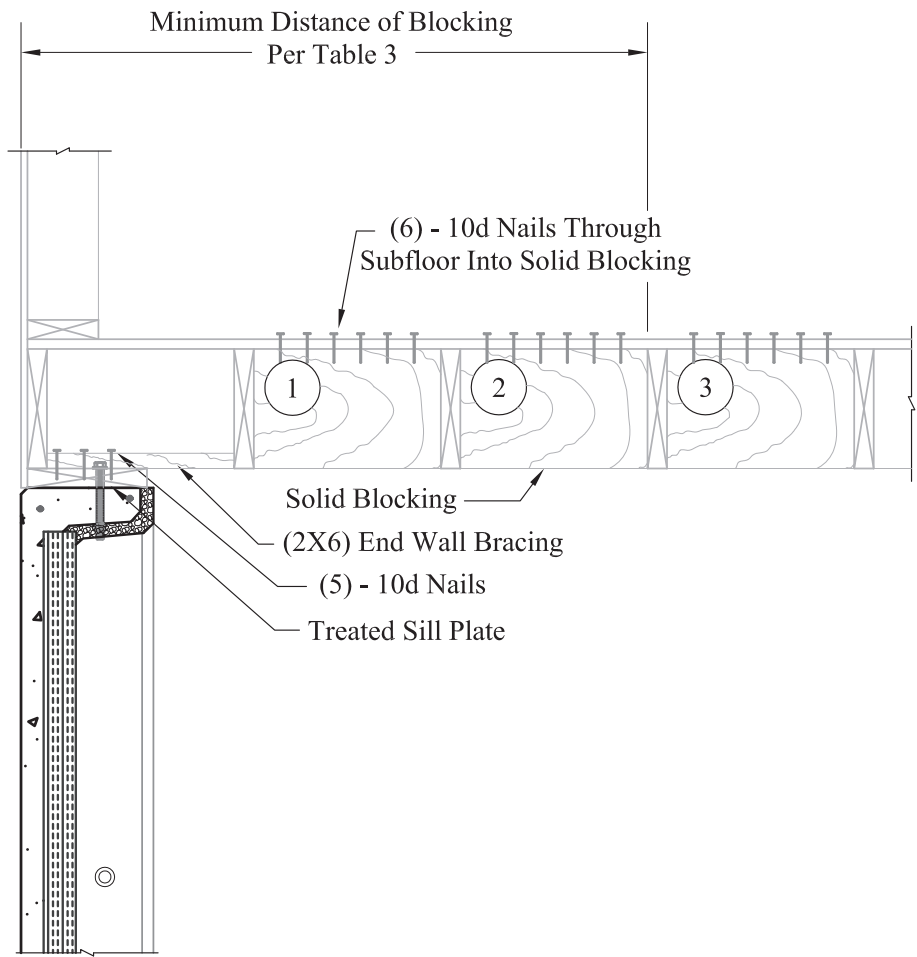
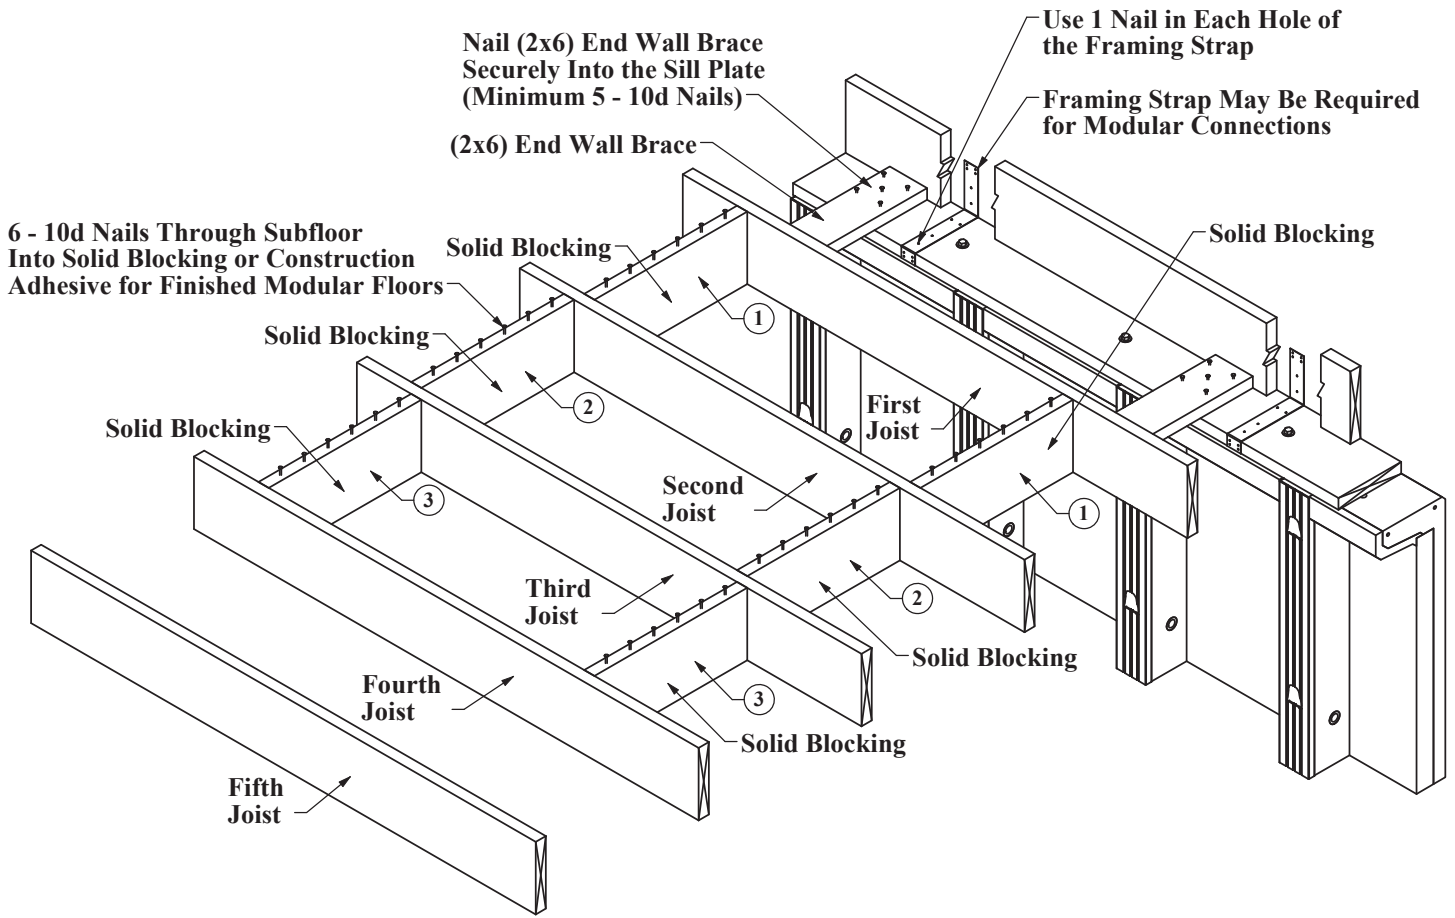
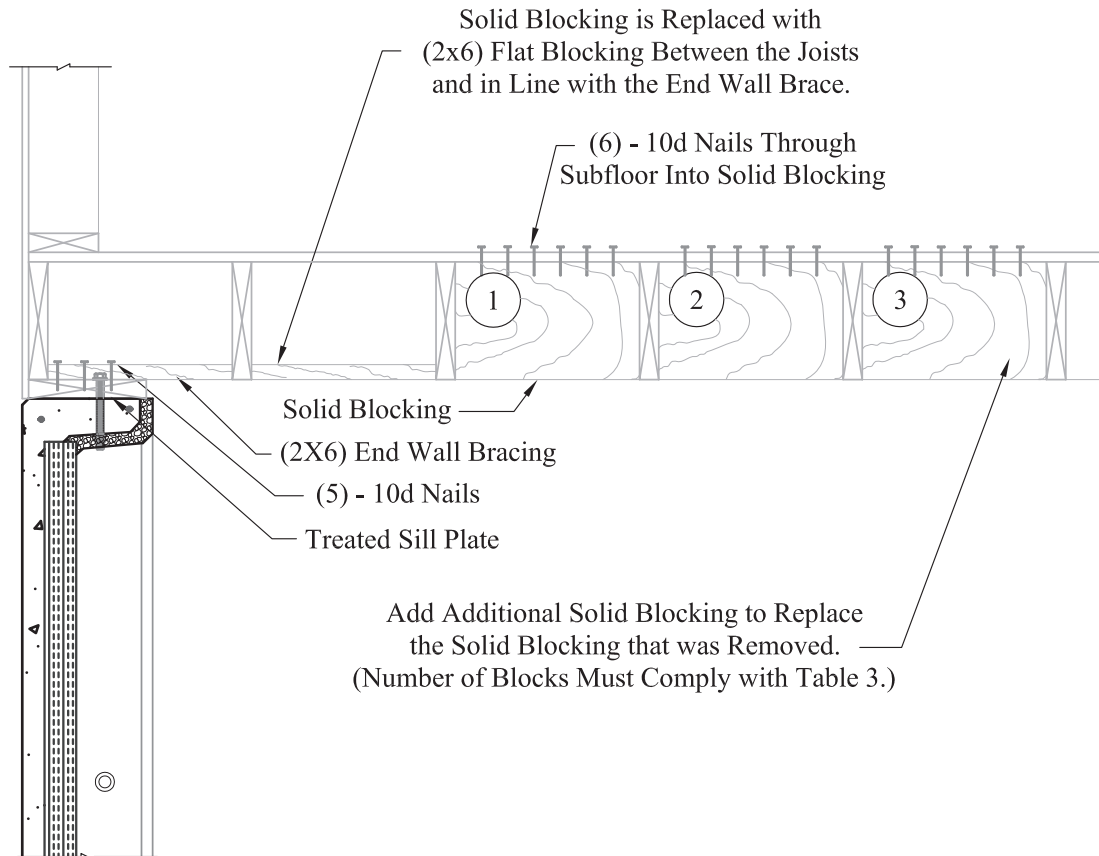

Figure 19
Figure 20
Figure 21
- Nail a 2 x 6 end wall brace securely to the sill plate with five 10d nails every 48" on center. (Braces must be within 12" from the of each corner.) See Figure 19 on page 27 and Figure 20 on page 28.
To accommodate for HVAC ductwork that is located where Solid Blocking is shown in Figure 19 on page 27 and Figure 20 on page 28, additional blocking is required as shown in Figure 21 (below).
- Solid Blocking is replaced with 2x6 Flat Blocking. (Locate Flat Blocking between the joists and in line with the 2x6 End Wall Braces.) (See Figure 21.)
- When not using the Framing Strap: Nail 2x6 End Wall Bracing to the sill plate using five 10d nails. See Figure 19 on page 27 and Figure 20 on page 28.